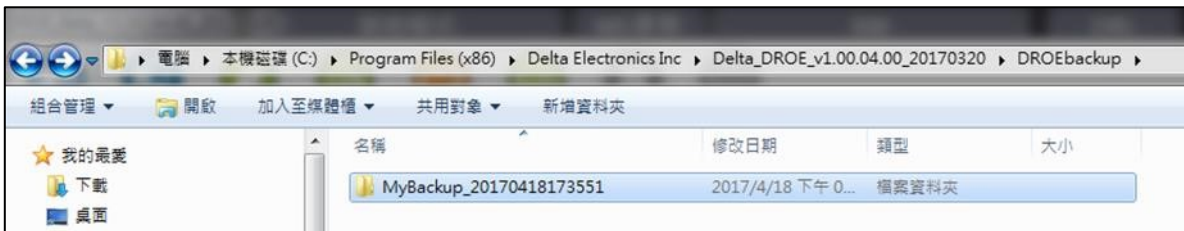

Figure 3.16-5 Back up file path
6. The **Output** tab on the Auxiliary screen displays the back information; the backup path is as shown in Figure 3.16-5.